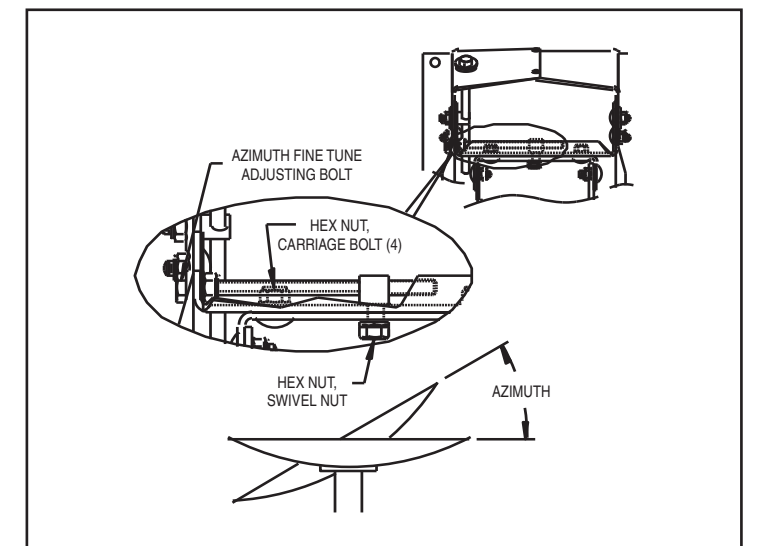

FIG. 3.2 - Rotating Antenna for Azimuth
Use Chart 3 and determine your azimuth setting. Values in chart must be adjusted for magnetic deviation for your location for correct compass reading. Rotate Reflector and Mount pointing it to the correct compass reading. Slowly sweep the antenna in azimuth until signal is found. If the desired signal is not found, increase or decrease elevation setting and repeat the azimuth sweep (Ref. Fig. 3.2). Tighten Half Clamp Bolts.
Use Signal Tuning Device for final adjustments to obtain maximum antenna performance. Alternate between elevation and azimuth fine tuning to reach maximum signal strength, until no improvement can be detected. Certain models utilize the optional azimuth fine tune feature (refer to Figure 3.2). This allows the azimuth to be fine tuned by loosening the (4) Carriage Head Bolts and Swivel Nut which allows adjusting the Azimuth Fine Tune Adjusting Bolt for the peak signal. When fine tuning is complete, tighten and torque all AZ/EL hardware to 12 ft-lbs (16.3 N-m). Do not exceed 12 ft-lbs (16.3 N-m). Torque Clamp Hardware to 18 ft-lbs (24.4 N-m) in alternating sequence.